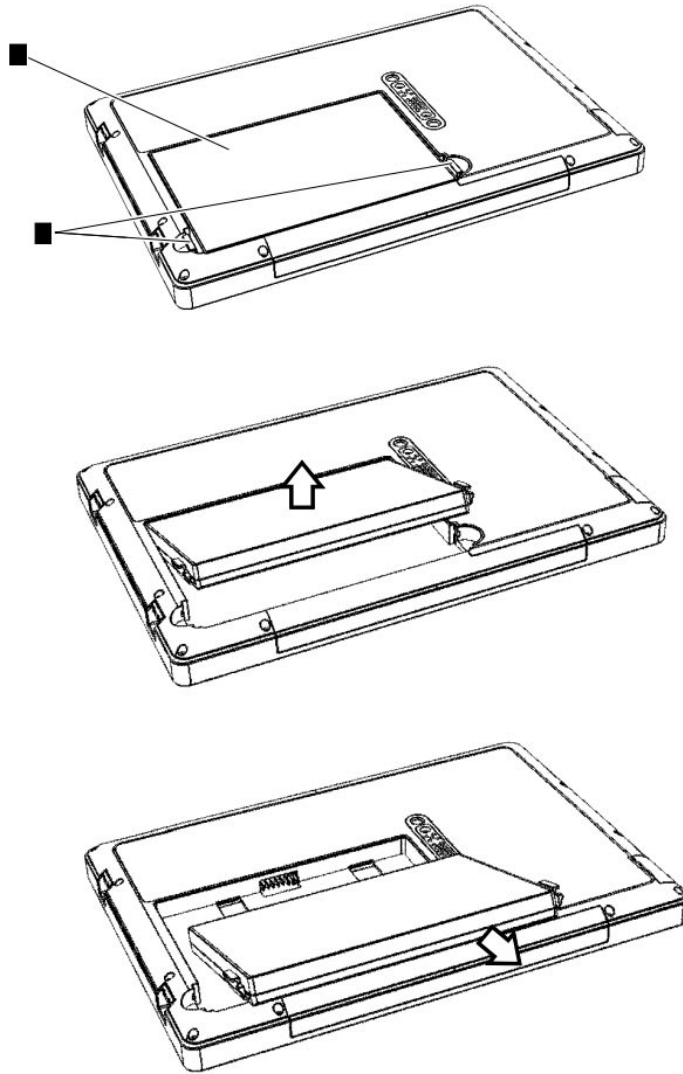

Figure 1: EXTERNAL REMOVABLE BATTERY REPLACEMENT
- (1) Obey the general maintenance and safety precautions (TASK 20-00-00-910-801).
- (2) Check the external removable battery for integrity (no swelling). If swelling is noticed, replace the battery :
- Press the two clips (1-fig. 1) to unlock the battery (2-fig. 1).
- Remove the battery (2-fig. 1).
- Install a new battery (2-fig. 1) in position.
- Make sure that the clips (1-fig. 1) are engaged.
- (3) Get a software that can calculate CRC32 checksum (for example "7-zip File Manager").